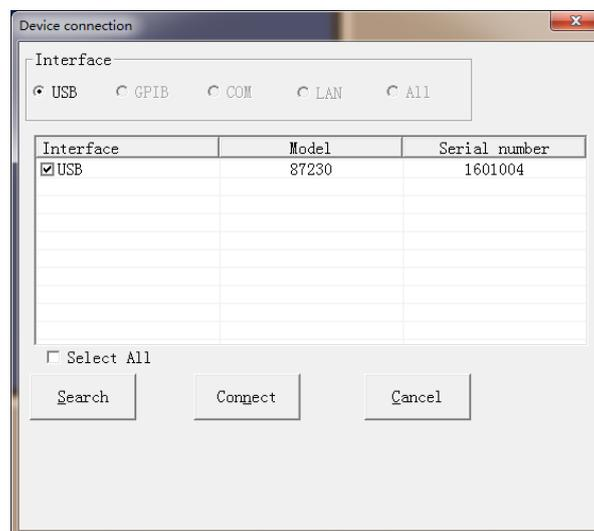

Figure 4.3 Connecting Device Window
Step 1 Connect the USB power sensor to the computer, open the power measurement virtual panel, select the USB device to be connected in the "Instrument Connection" window popped up by the system, and click the "Connect" button, as shown in Figure 4.3, then the measurement process normally operates;